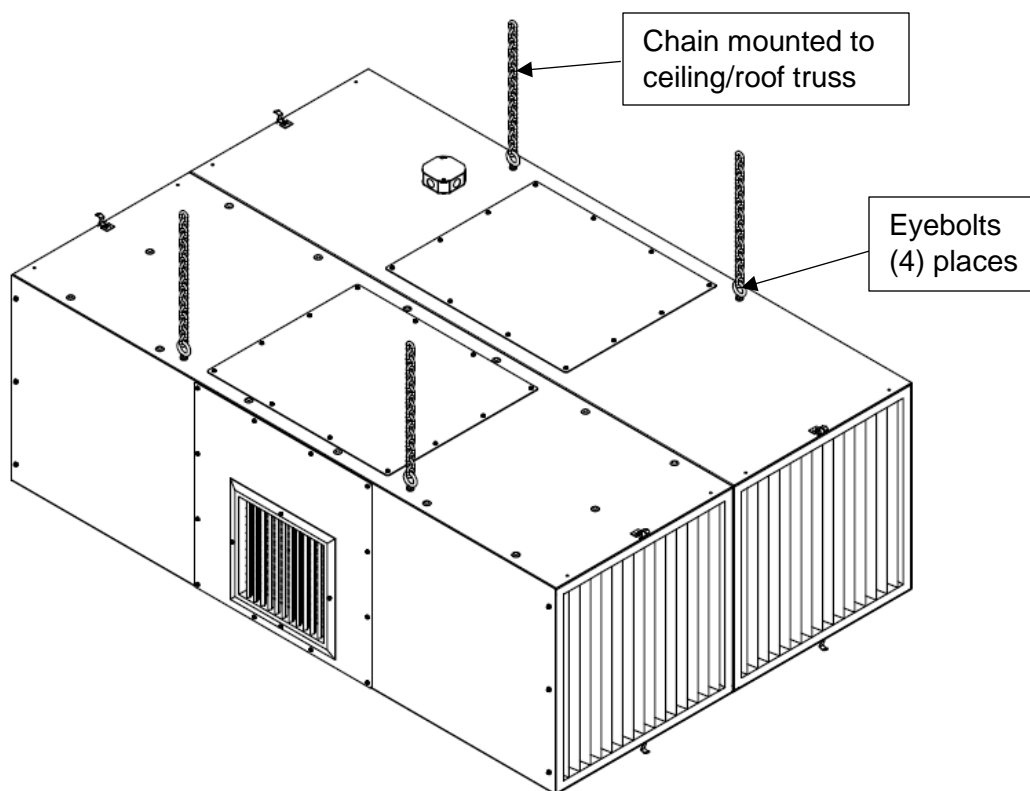

FIG. 1 – Horizontal Configuration.
3. Once eyebolts are secured, the MXT is ready to be hung in an appropriate location (See FIGS. 1 & 2).
2. Lift unit to access the threaded holes on the bottom of the cabinet. Depending on the configuration, the number of bolts will be different. The horizontal configuration bolts on 8 places on the bottom of the cabinets whereas the vertical configuration bolts on 4 places. **NOTE:** The cabinet can be lifted by installing eyebolts on the top. Eyebolts are not supplied by Micro Air (See **FIGS. 1 & 2**).